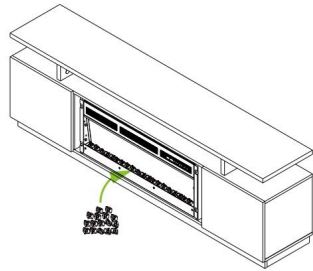

Fig.4
- Install the media; see Fig.4